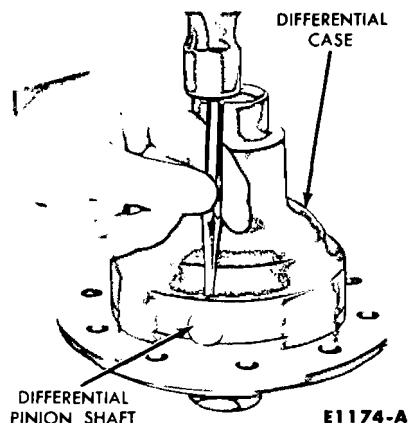

FIG. 32—Removing Differential Pinion Shaft Lock Pin
6. With a drift, drive out the differential pinion shaft lock pin (Fig. 32) and separate the 2-piece differential case.